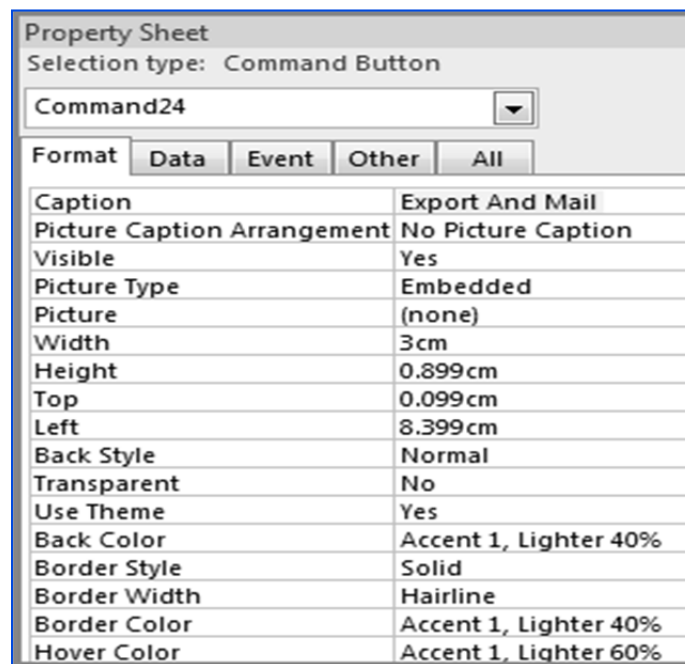

Fig. 4.2.14: Set Caption Property
- In the *Format* tab of *Property Sheet*, set the value of the *Caption* property to *Export And Mail* as shown in Fig. 4.2.14.